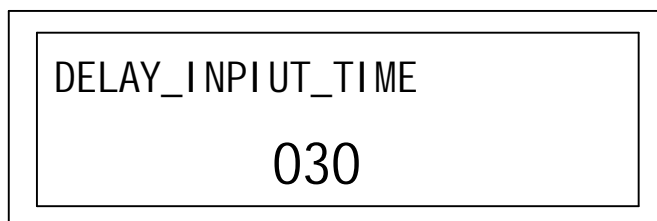

Fig.12: DELAY_INPUT_TIME setup
7). DELAY_INPUT_TIME: Arc voltage delay input time setup. Fig.12.